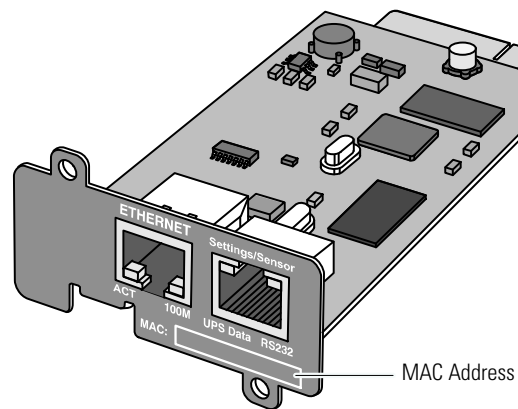

Figure 2. MAC Address Location
- The MAC address is located on the label on the front of the card (see Figure 2).